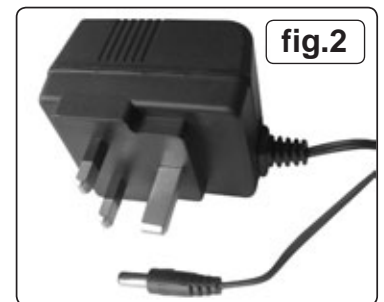

fig.2
1. Ensure the spotlight is turned 'Off' and then plug the charger adaptor (fig.2) into the jack inlet (fig.3.B) on the spotlight body. Stand the spotlight in a safe location ready to charge.